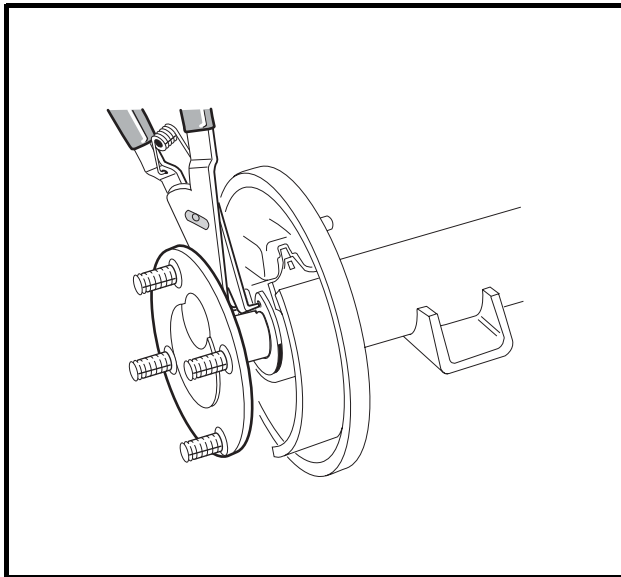
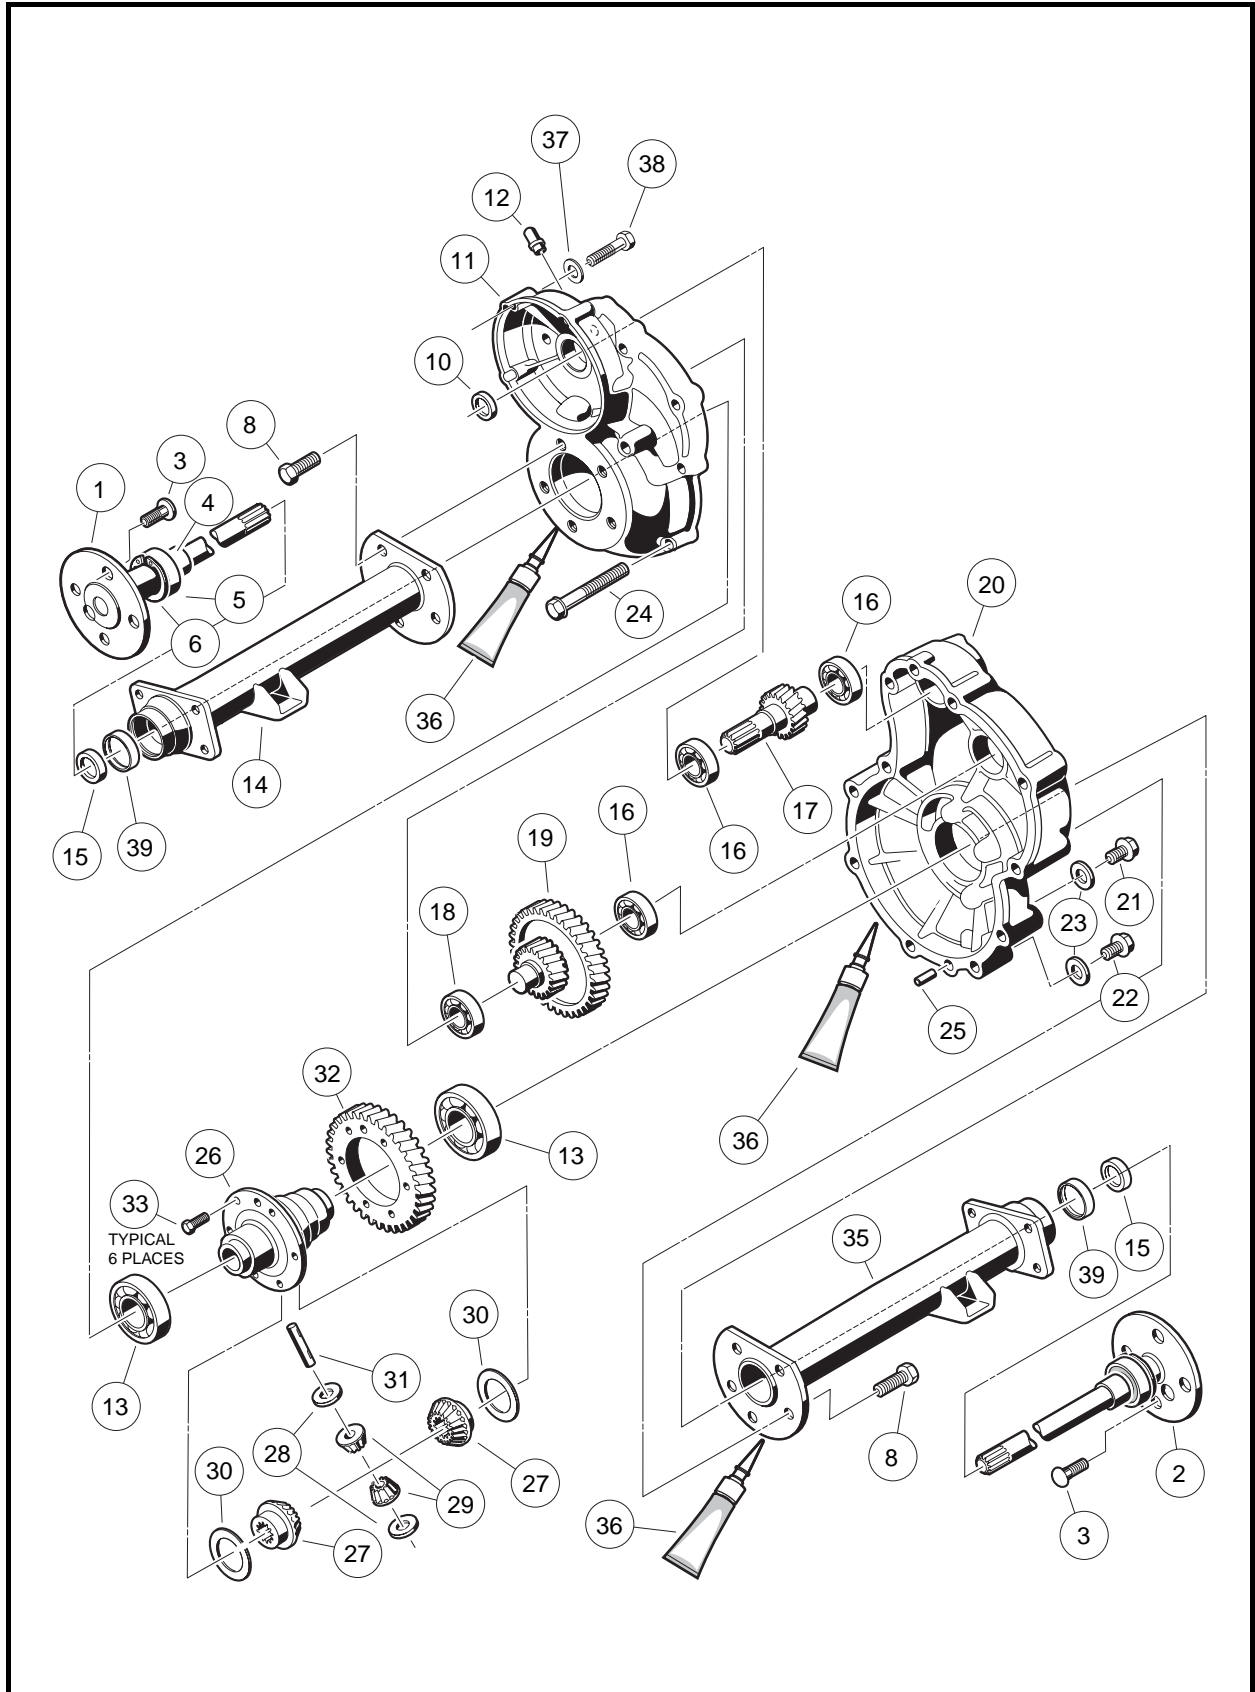
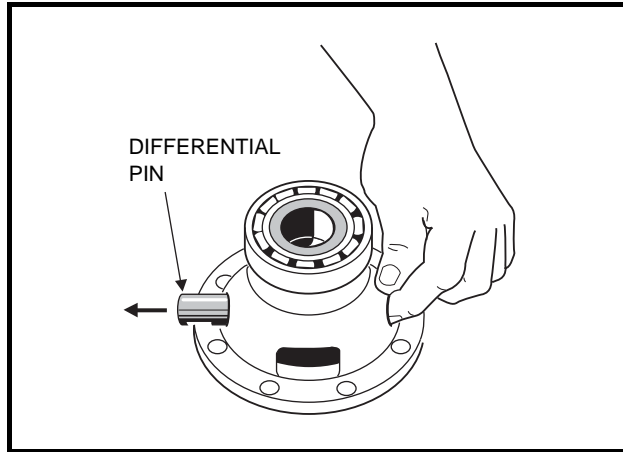

Figure 16-1 Axle Tube
Figure 16-5 Transaxle – Type G
Figure 16-15 Differential Pin
There are two plugs located on the lower half of the transaxle housing. The upper plug (21) (as viewed when the vehicle is on a level surface) is used as a lubricant level indicator (**Figure 16-5, Page 16-3**). When the vehicle is parked on a level surface, the lubricant level should be even with the bottom of the hole. The lower plug (22) is for draining the lubricant. When draining the lubricant, the upper plug should be removed so the lubricant will drain faster. Be sure the drain plug is installed before filling. **See following NOTE.**
4. Use 90° internal snap ring pliers to remove the internal retaining ring (6) from the axle tube (**Figure 16-5, Page 16-3**). **See also Figure 16-1, Page 16-2.**
8. Inspect bearing (5) (**Figure 16-5, Page 16-3**). If the bearing in a Type G transaxle is worn or damaged, the entire axle shaft assembly (1 or 2) must be replaced.
- 1.3. Clean adapter ring seat(s) in the axle tube (14 or 35) (**Figure 16-5, Page 16-3**).
- 2.1. Insert the shaft, splined end first, through the seal and into the axle tube. Be careful not to damage the seal on the inside of the axle tube hub. Advance the shaft through to the bearing on the shaft, then rotate it to align the shaft splines with the splined bore of the differential side gear (27) (**Figure 16-5, Page 16-3**). Continue advancing the shaft until the bearing on the axle is firmly seated within the axle tube hub seat.
- 2.2. Use a pair of snap ring pliers to install the retaining ring (6) inside axle tube hub so that it seats against the axle bearing assembly and into the machined slot in the inside wall of the axle tube hub (**Figure 16-5, Page 16-3**).
- NOTE:** *If the retaining ring (6), axle bearing (5), or sleeve (4) must be replaced, the entire axle shaft assembly (1 or 2) must be replaced (**Figure 16-5, Page 16-3**).*
Do not remove the axle bearing (5) from a Type G transaxle. If bearing is worn or damaged, the entire axle assembly (1 or 2) must be replaced (**Figure 16-5, Page 16-3**).
1. To detach axle tubes (14 and 35) from the transaxle housing, remove the bolts (8) (**Figure 16-5, Page 16-3**).
2. Remove 11 bolts (24) that hold housing together.
3. Pull the halves of the housing (11 and 20) apart. If necessary, tap lightly on the spline of the input pinion (17). **See following CAUTION.**
4. Remove input pinion gear (17) by pulling gear out while rocking intermediate gear assembly (19). Lift intermediate gear assembly and differential gear case unit out simultaneously (**Figure 16-5, Page 16-3**). **See following CAUTION.**
5. Use a bearing puller or arbor press to remove bearings (16) from the input pinion gear. If the oil seal (10) is damaged, replace it (**Figure 16-5, Page 16-3**). **See also Figure 16-13, Page 16-8. See following CAUTION.**
6. To disassemble the intermediate gear assembly, press off together the bearing (16) and the gear (19) (**Figure 16-5, Page 16-3**). **See also Figure 16-13, Page 16-8.**
7. Press the bearing (18) off the intermediate gear assembly (**Figure 16-5, Page 16-3**).
- 8.1. Remove the hex bolts (33) and the ring gear (32) from the differential case (**Figure 16-5, Page 16-3**).
- 8.4. Remove the differential pin (31) by pushing pin through differential gear case from one side (**Figure 16-5, Page 16-3**). See also **Figure 16-15, Page 16-9**.
8.7. Inspect the bearings (13) of the differential case (26) and replace them if they are damaged (Figure 16-5, Page 16-3). To remove them, press them off. **See following CAUTION.**
1. If bearings (13) were removed during disassembly, install new bearings using an arbor press (Figure 16-5, Page 16-3).
- 2.1. Install the pin (31) (Figure 16-5, Page 16-3). Apply a small amount of oil to all thrust plates and to both ends of the pin.